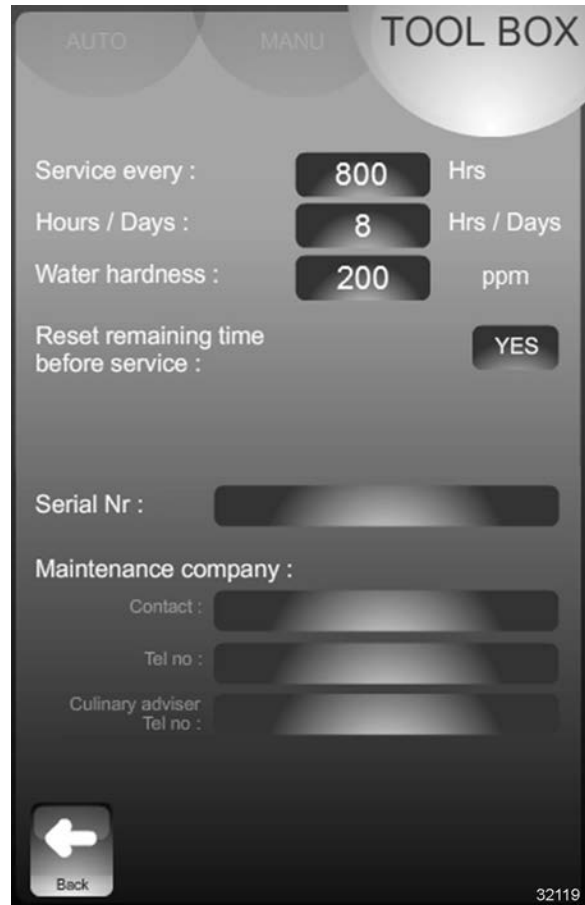

Fig. 92
2. Set / change installation parameters (Fig. 92) by either: